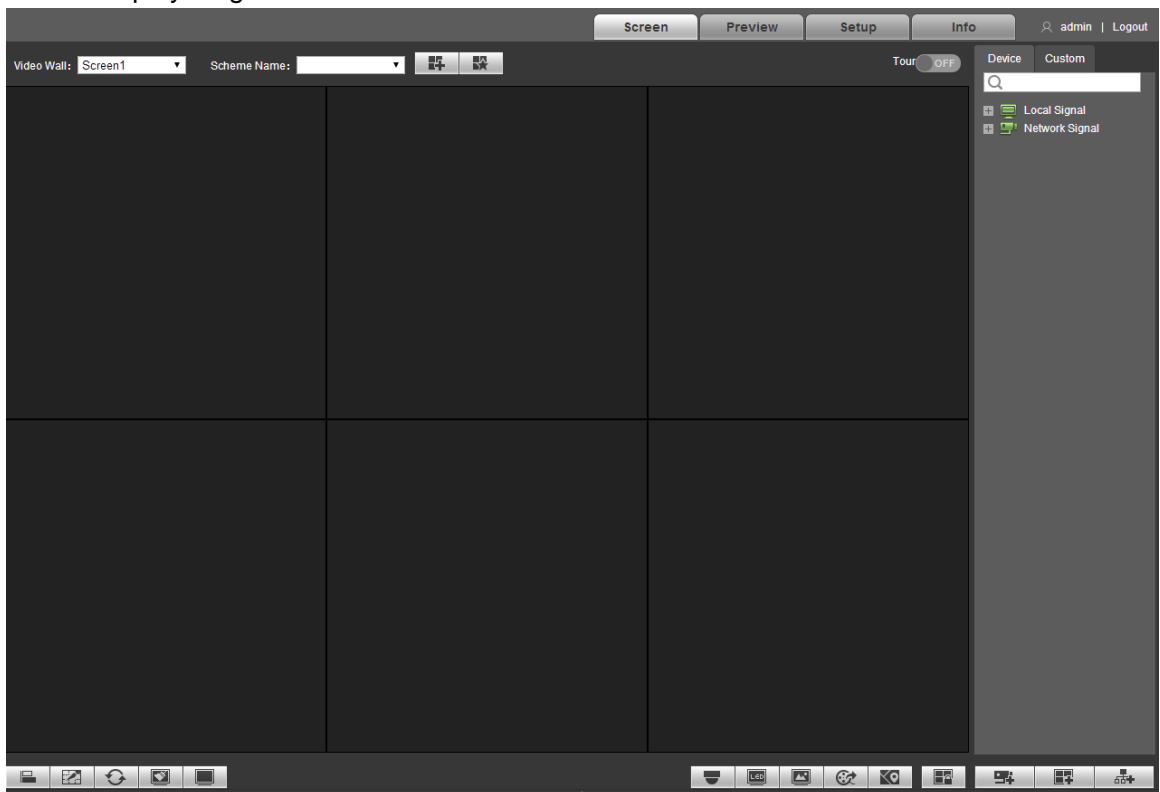

Figure 4-3
Step 4 Input username and password, and click "Login" to login the system. The system displays Figure 4-3.